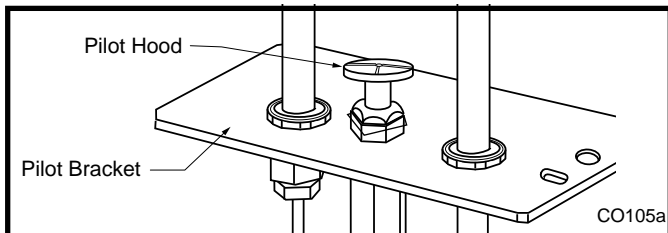

Fig. 26 Remove pilot hood.
13. Remove pilot hood by lifting up. (Fig. 26)